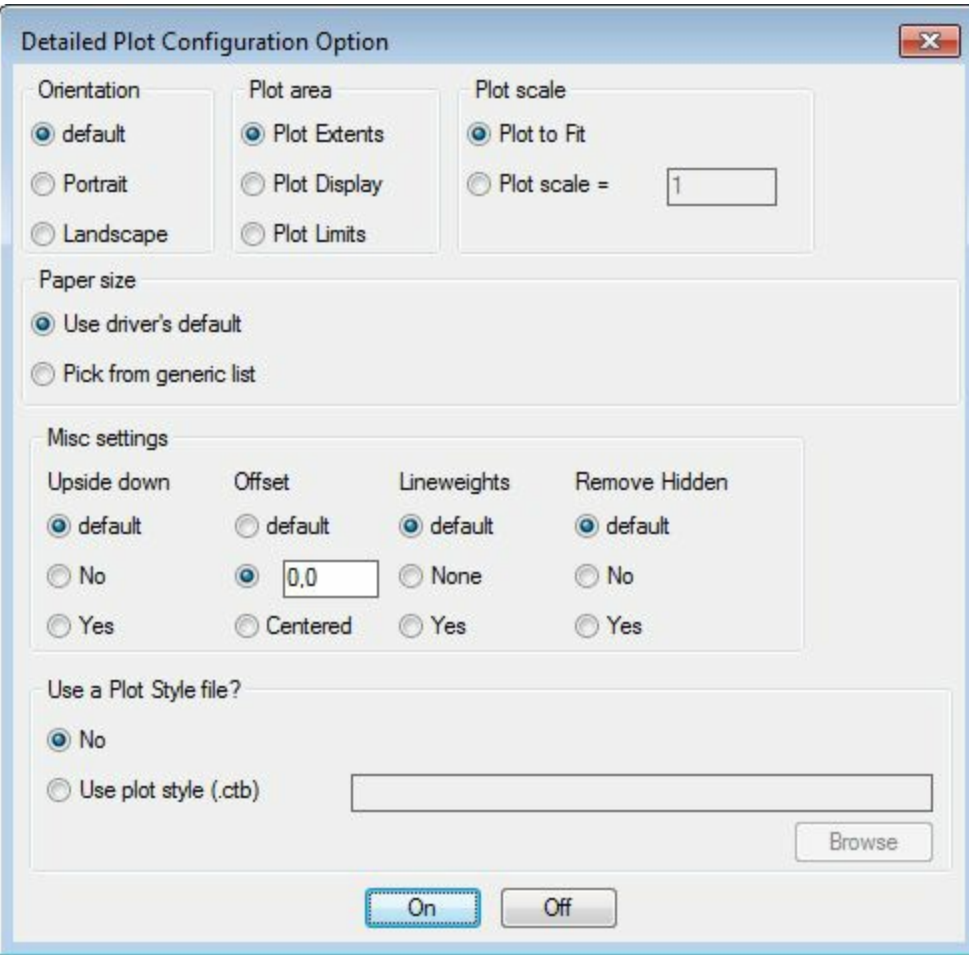

Figure-31. Detailed Plot Configuration Option dialog box
- Click on the **Detailed Plot Configuration mode** button to specify settings for the plot. The **Detailed Plot Configuration Option** dialog box will be displayed; refer to Figure-31.